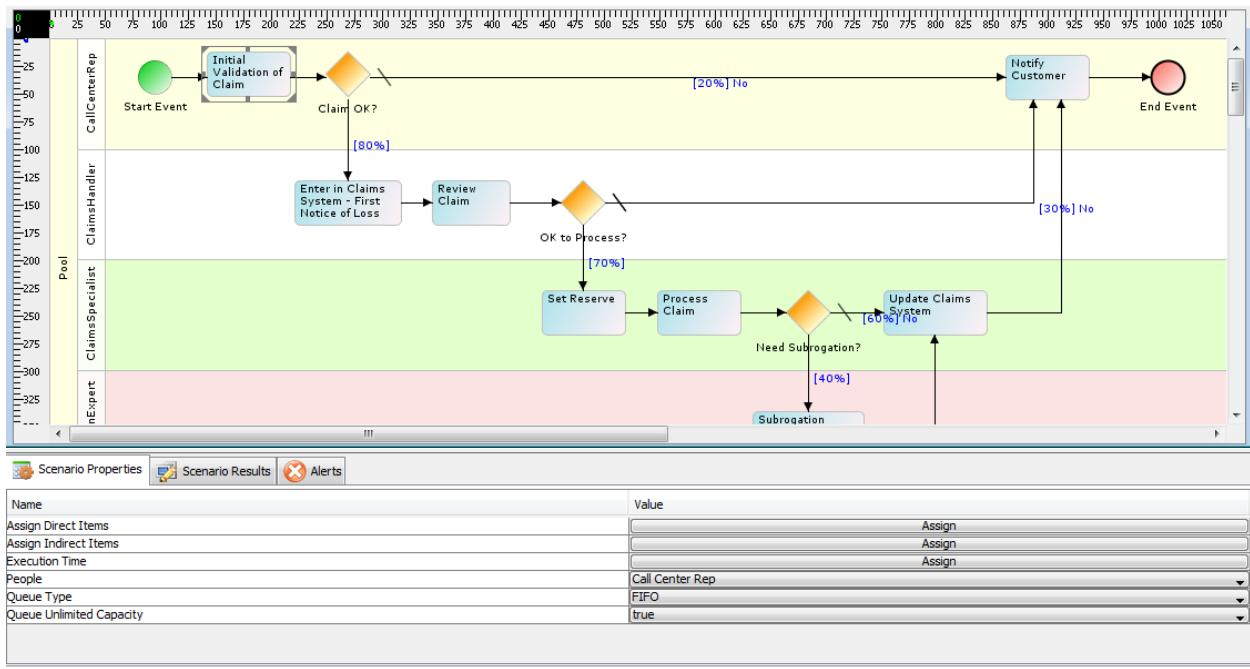

Figure 10: Scenario Properties
2. To assign a resource to an activity, double-click the activity in the graph canvas. Properties of the activity are shown in the Scenario Properties panel in the bottom pane (see Figure 10).